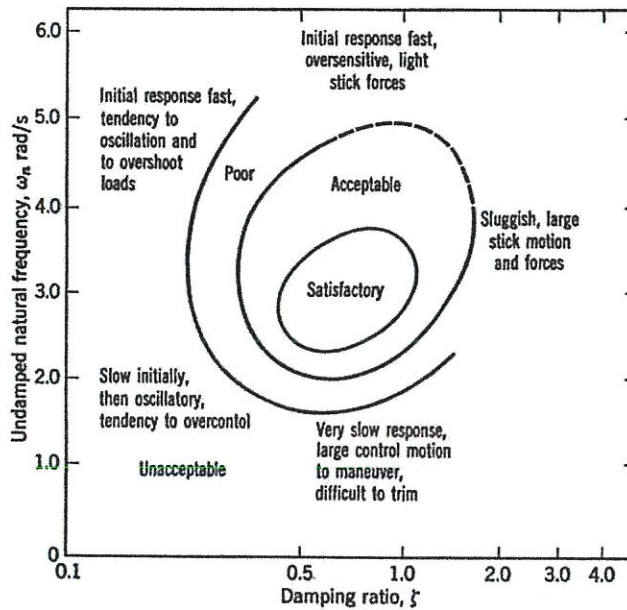

Figure Q2(d) The short period flying quality.
- (d) Comment on the time response characteristics of the short period motion obtained for this aircraft. Do your findings agree with the handling quality criteria shown in **Figure Q2(d)**? (8 marks)